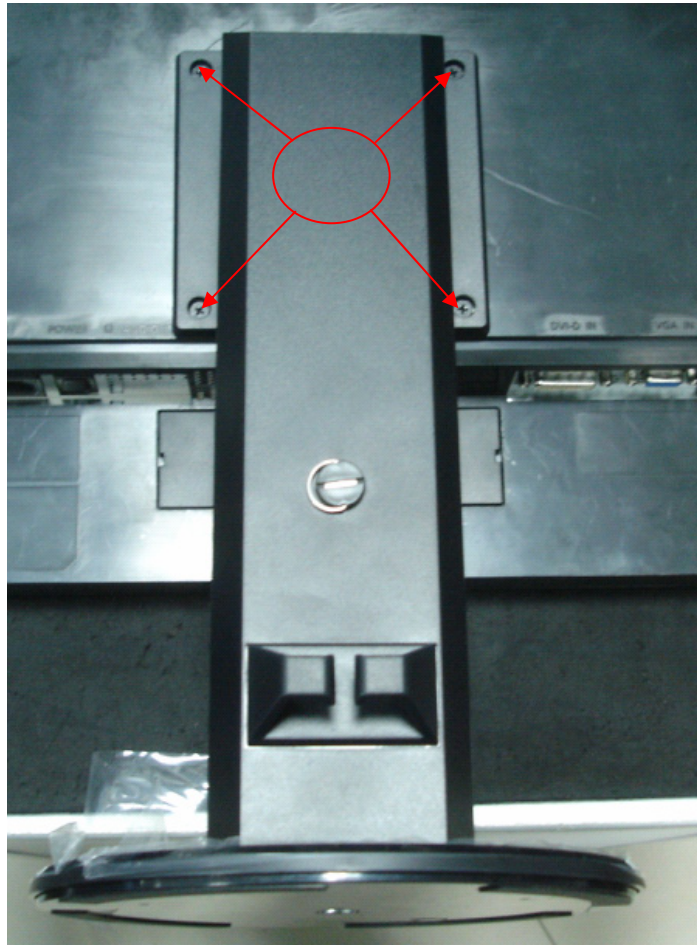

Fig 1
1. Remove the HINGE ASSEMBLY as the following indicator. (Fig 1)